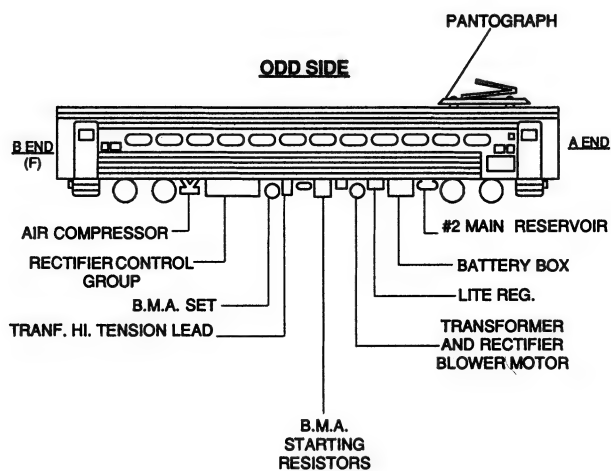

Figure 1-3: Car General Arrangement
### 1-1.03 CAR ORIENTATION (Figures 1-3, 1-4, 1-5, & 1-6)
3. Side vestibule doors are numbered (Figures 1-3 & 1-4):